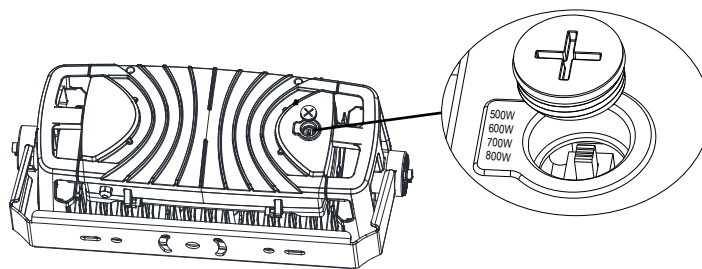

Figure 13
- The fixture is pre-set to either 500W or 800W output (Figure 13).